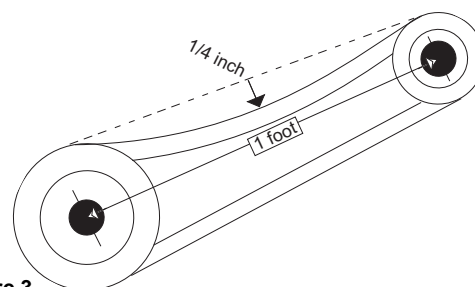

Figure 3
- Adjust the motor plate until proper tension is reached. For proper tension, a deflection of approximately 1/4" per foot of center distance should be obtained by firmly pressing the belt. Refer to figure 3.